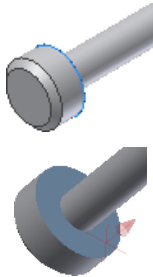

Figure 1.14
22. Select the underside of the head on Pin:1 as shown in Figure 1.14.